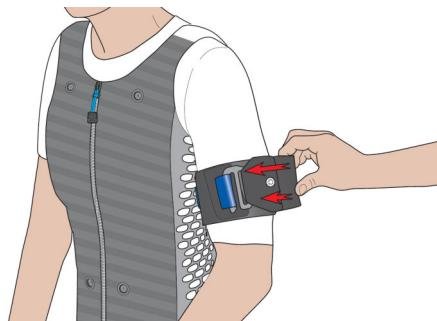

Fig. 41: Positioning the i-body® strap flex
9. ➔ Turn the i-body® strap flex so that the pushbutton faces outwards (Fig. 41).